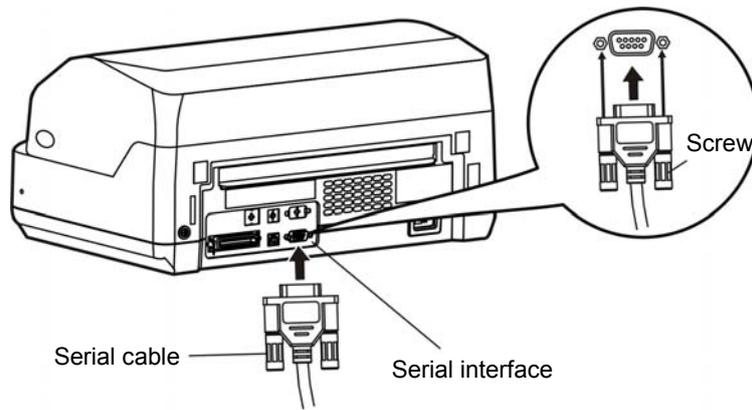

Figure 2-17 Connecting the serial cable
1. Turn off both the computer and the printer. Plug the serial cable connector securely into the printer's serial interface. Then tighten the screws on either side of the connector. (As Figure 2-17 shown)